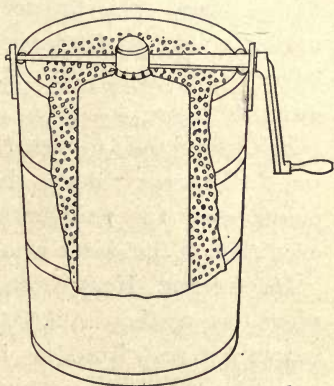

FIGURE 6.—LINE DRAWING OF AN ICE CREAM FREEZER.
14. Freezing Ice Cream. — The freezer in which ice cream and ices are frozen is made up of two compartments; one, a can, which fits very loosely into the other, a wooden pail. (Figure 6.)